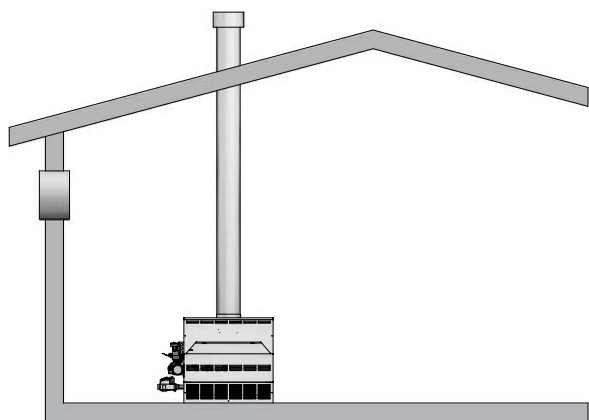

Figure 1-6 *Combustion Air from Outside Single Opening*
4. If a single combustion air opening is provided to bring combustion air in directly from the outdoors, the opening must be sized based on a minimum free area of one square inch per 3000 Btu/hr (7 cm² per kW). This opening must be located within 12" (30 cm) of the top of the enclosure (see FIG. 1-6).